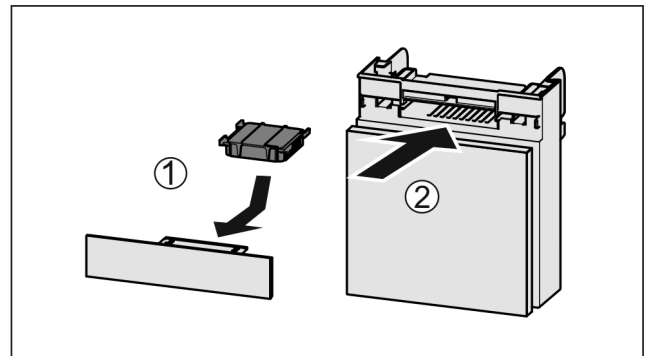

Fig. 92
- ▶ Insert the carbon filter as shown in the diagram Fig. 92 (1).
- ▶ Push the compartment in Fig. 92 (2).